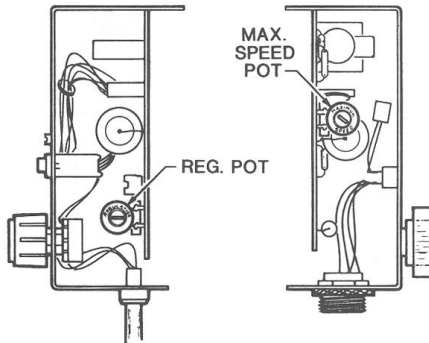

Figure 3. Maximum Speed and Regulation Trim Pot Locations
6. Set the MAXIMUM SPEED trimpot to full CCW (refer to Figure 3, page 11).
7. Set the REGULATION trimpot to full CCW (refer to Figure 3, page 11).